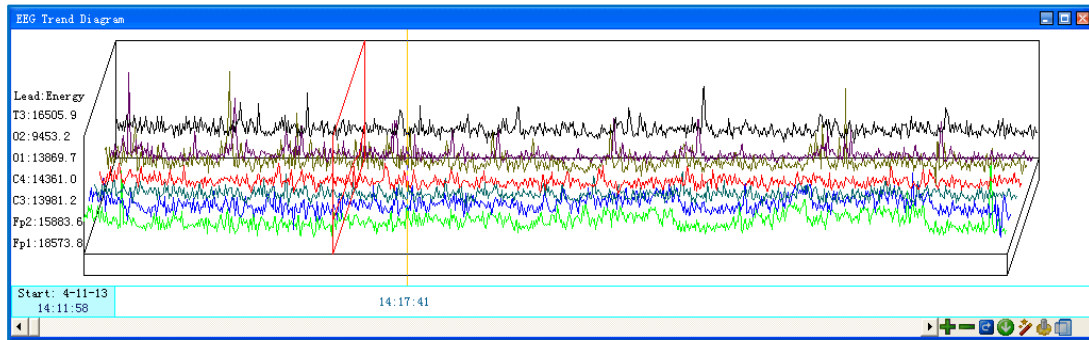

Fig 4-15C 3D EEG Trend Display
- Click on the trend diagram, and it will show the current energy level, peak energy frequency, and (relative and absolute) energy values (See Fig 4-15C).